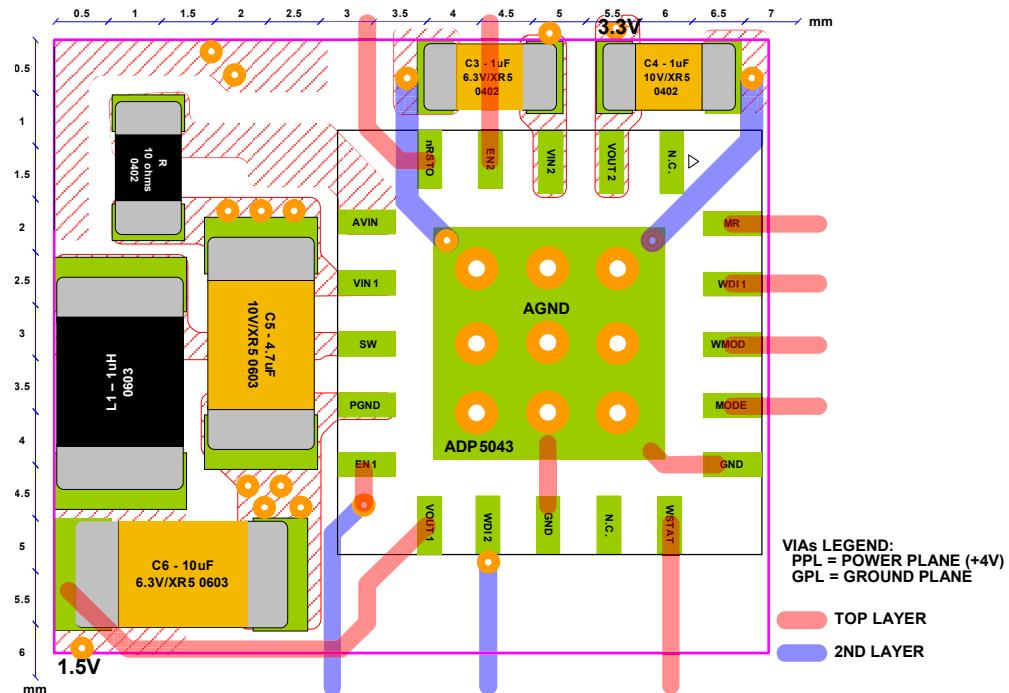

Figure 55. Layout
An important factor to consider is that θ_{JA} is based on a four-layer 4 inch \times 3 inch, 2.5 oz copper, as per JEDEC standard, and real applications may use different sizes and layers. It is important to maximize the copper used to remove the heat from the device, and copper exposed to air dissipates heat better than copper used in the inner layers. The thermal pad (TP) should be connected to the ground plane with several vias as shown in Figure 55.